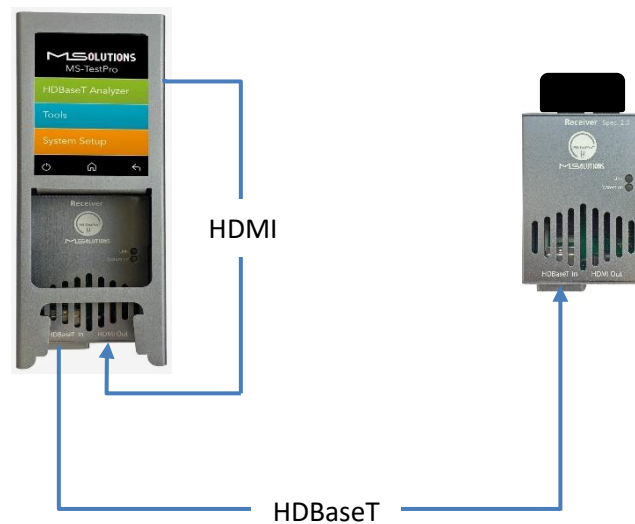

Figure 32: Cable Test Setup
1. Connect the MS-TestPro test device to both ends of the CATx cable, as shown below in Figure 32: